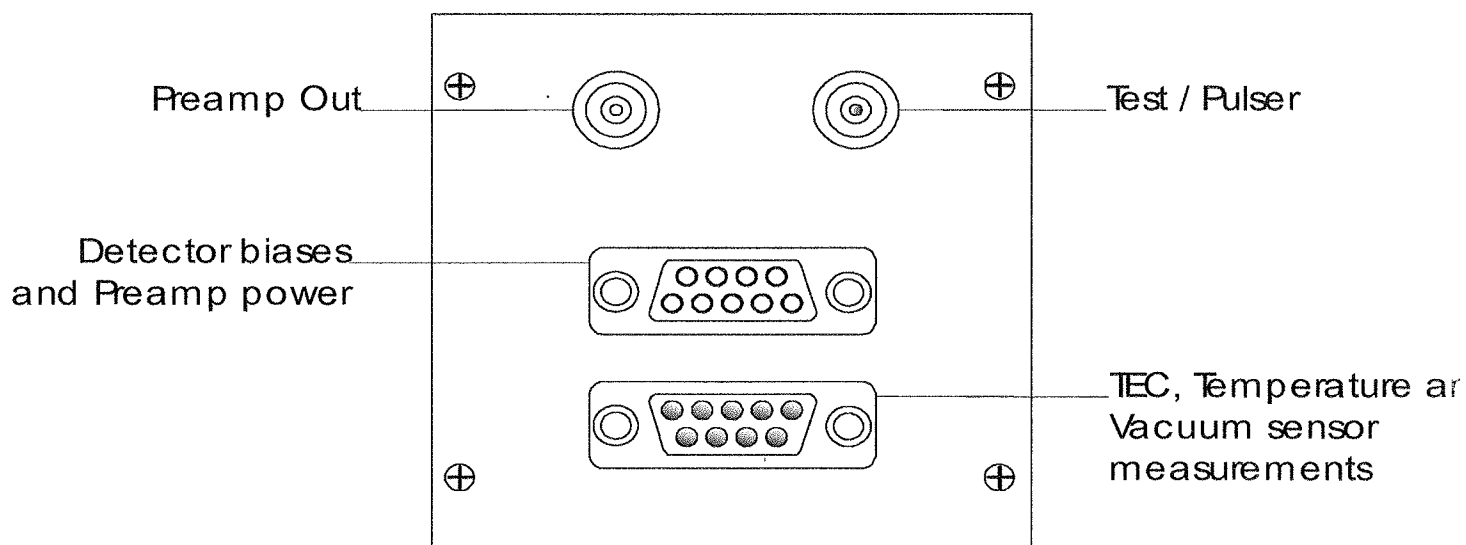

Figure 10. Schematic of connectors on preamplifier panel.
The preamplifier connector panel includes four connectors, as shown in Figure 10. The power connector is a DB-9, the output signal connector is a BNC, the test signal connector is a BNC, the vacuum-temperature control connector is a DB-9, and the power connector to the TEC is a DB-9.
- Connect the appropriate ends of the cables to the connectors shown in Figure 10: